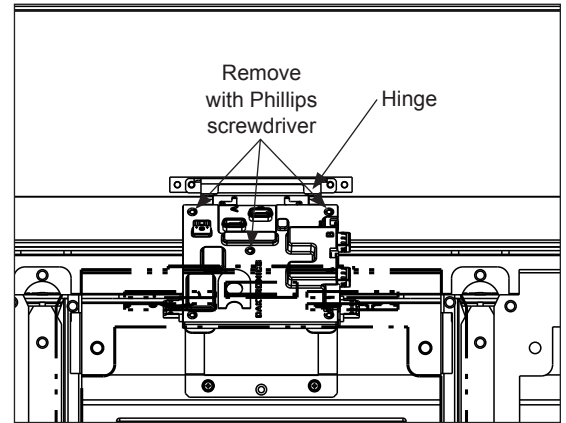

**Figure 62:** Front-Access Angle
**Note:** When performing this step, take care not to damage the louvers by tilting the module at too much of an angle. Refer to **Figure 62**.